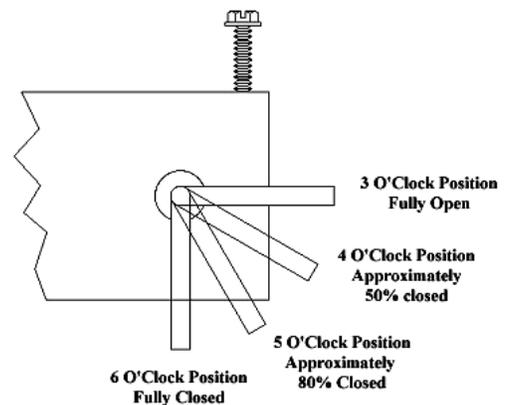

Figure 5
The purpose of this damper is to adjust combustion airflow to match the characteristic of each specific air inlet and chimney configuration. There is a setscrew in the damper (shown in Figure 5) and the damper has been preset at the factory. This setting will most likely work for 90% of the most common installations. Long horizontal runs might need the damper opened. Tall vertical runs might need the damper to be closed a little, etc. To adjust the damper, use the setscrew to make the adjustments. To make an adjustment turn the screw $\frac{1}{2}$ turn clockwise to open the damper or $\frac{1}{2}$ turn counter clockwise to close the damper. Remember to use the damper handle to bring the damper up to the screw. The damper will not close by itself. After making an adjustment wait at least 15 minutes to see how the burn pot reacts to the change. **Adjusting the damper during the break in period is very**
- d. Use the “scraper” provided to move the burning pellets to one side of the grate, leaving the ash in the bottom of the grate. (See Fig 5 & 6)